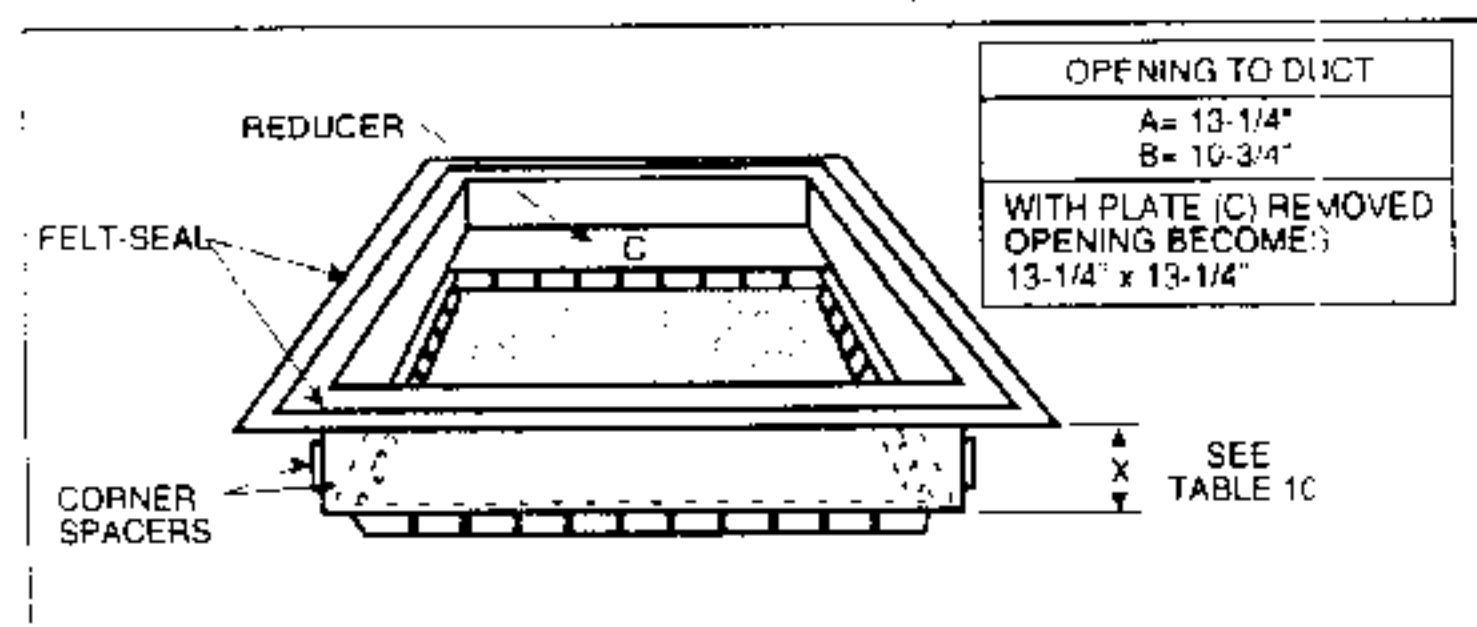

Figure 12.
- Select appropriate model from Table 10 which matches X-dimension of the floor cavity. To maximize air delivery, remove reducer "C" (see Figure 12) to obtain the largest open area that will fit the duct/floor construction.